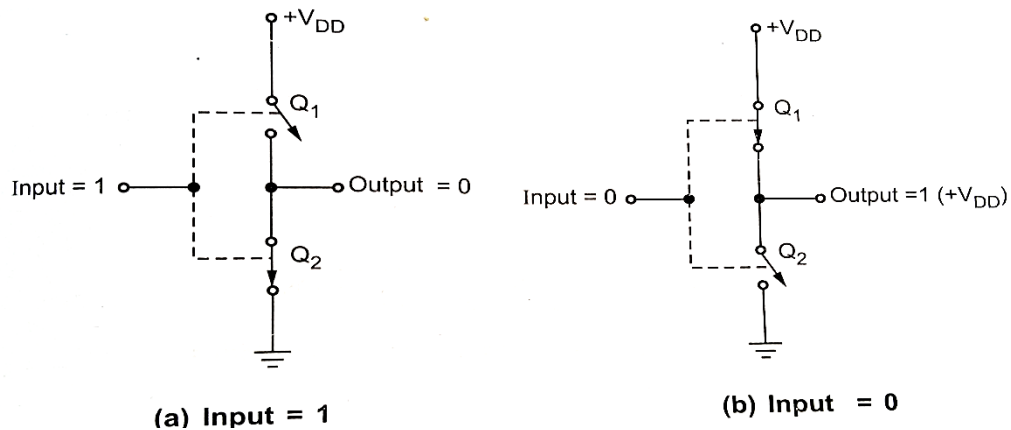

Figure 1.27: Operation of CMOS inverter for both input conditions
- When input is HIGH, the gate of Q1 (p-channel) is at 0V relative to the source of Q1 i.e. $V_{gs1} = 0V$. Thus, Q1 is OFF. On the other hand, the gate of Q2 (n-channel) is at $+V_{DD}$. Thus, Q2 is ON. This will produce $V_{OUT} = 0V$, as shown in figure 1.27 (a)
- When input is LOW, the gate of Q1 (p-channel) is at a negative potential relative to its source while Q2 is ON and Q1 is OFF. This produces output voltage approximately $+V_{DD}$, as shown in the figure 1.27 (b).